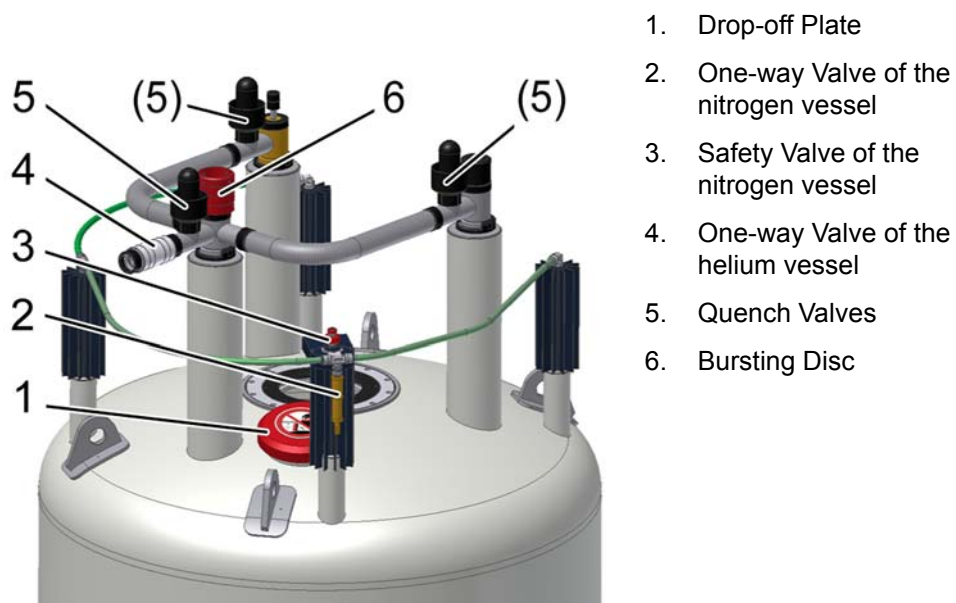

Figure 2.1: Safety Devices of the Cryostat - 3 turrets
The bursting disc (6), Figure 2.1 is another safety device of the helium vessel only at cryostats with 3 turrets. It opens with a defined pressure. In case of an accidental overpressure in the helium vessel the bursting disc will release the pressure smoothly. It has to be replaced after an accident.